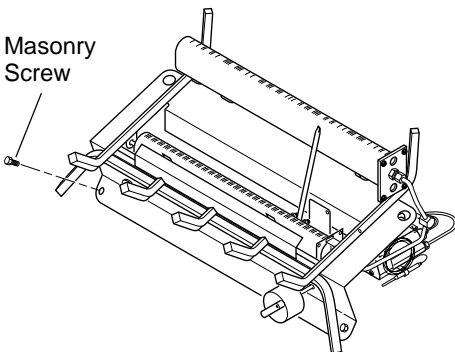

Figure 12 - Attaching Heater to Fireplace Floor
6. Attach base to fireplace floor using masonry screws in hardware package (see Figure 12).